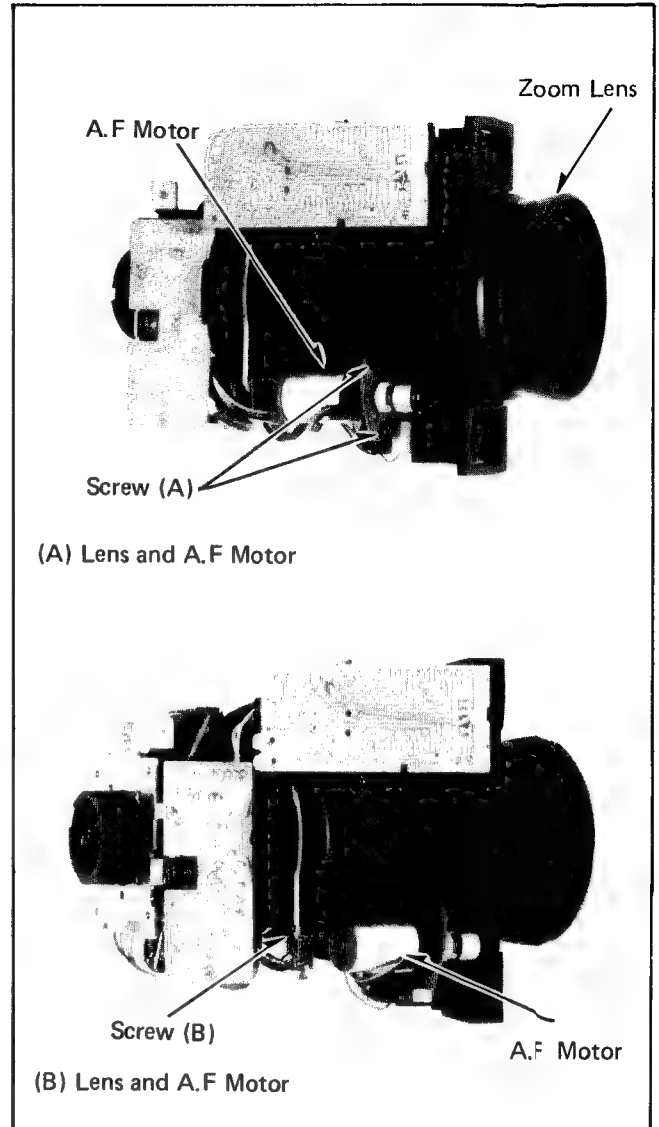

Fig. 17.
- 6-3. Unscrew 2 screws (A) and a screw (B). Then, remove the auto focus motor assembly (see Fig. 17-A/B).